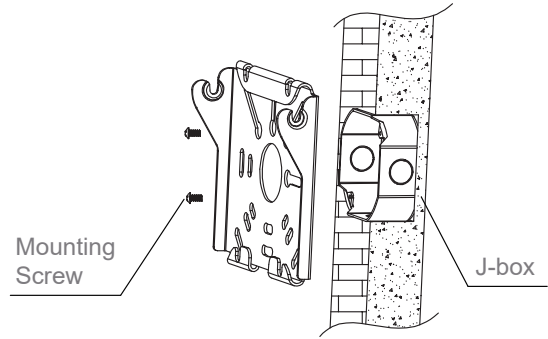

Figure 2
2. Use mounting screws (not provided) to fix mounting plate to the J-box (not provided). Note the screw hanging hooks should be facing out once installed. (Figure 2)